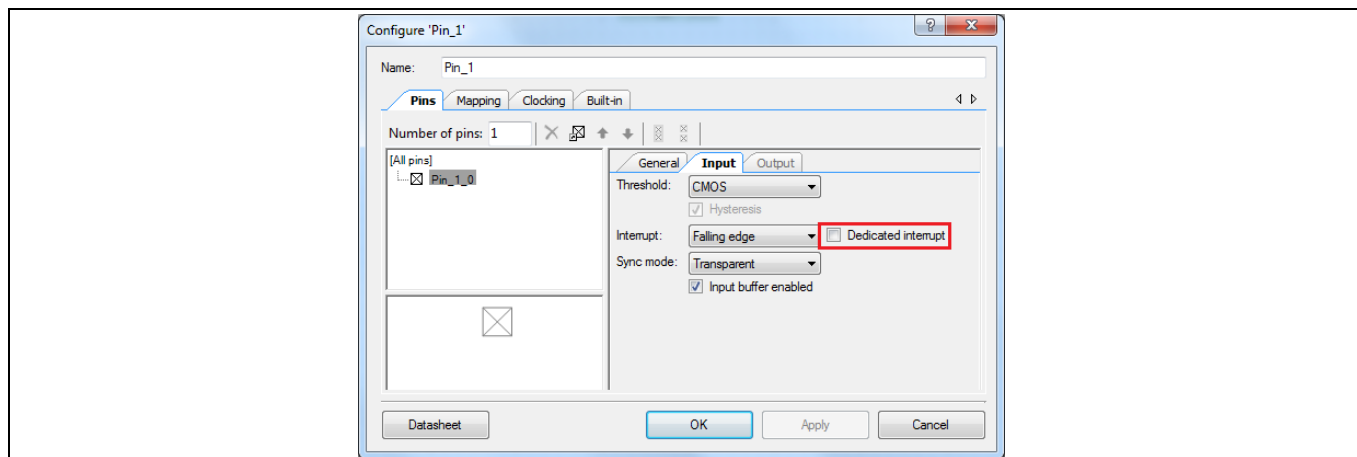

Figure 21 Pin Properties for Combined Interrupt
2. Configure the pin interrupt. Ensure that dedicated interrupt is unchecked, see Figure 21.